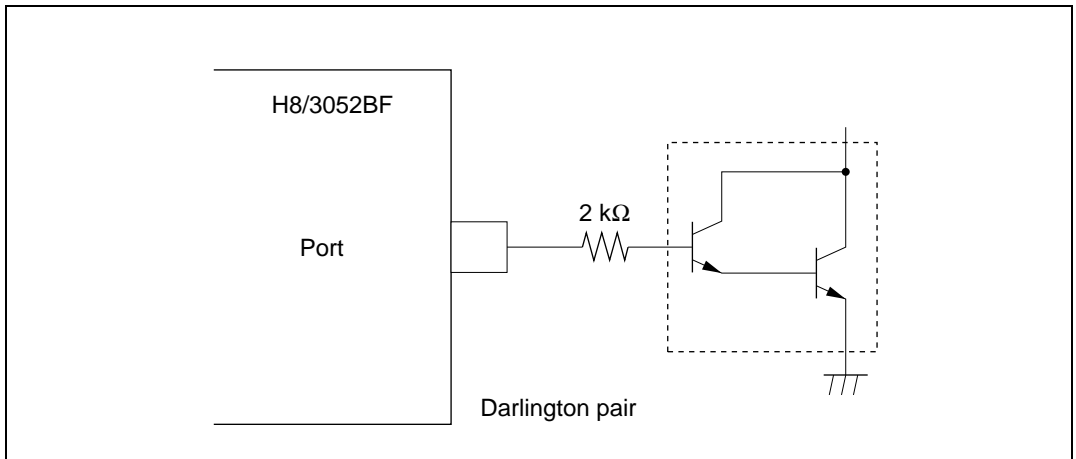

Figure 21.1 Darlington Pair Drive Circuit (Example)
2. When driving a darlington pair or LED, always insert a current-limiting resistor in the output line, as shown in figures 21.1 and 21.2.